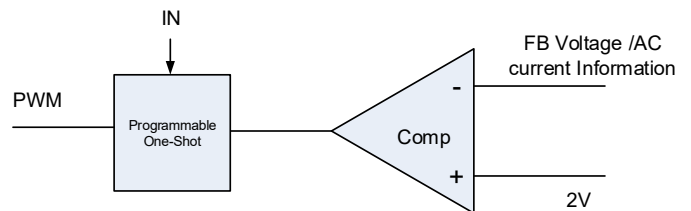

Figure 2. Simplified Control Schematic of AOZ2295AQI-03
The control algorithm of AOZ2295AQI-03 is constant-on-time PWM control with input feed-forward. The simplified control schematic is shown in Figure 2. The high-side switch on-time is determined solely by a one-shot whose pulse width is inversely proportional to input voltage (IN). The one-shot is triggered when the internal 2V is higher than the combined information of FB voltage and the AC current information of inductor, which is processed and obtained through the sensed low-side MOSFET current once it turns-on. The added AC current information can help the stability of constant-on time control even with pure ceramic output capacitors, which have very low ESR. The AC current information has no DC offset, which does not cause offset with output load change, which is fundamentally different from other V^2 constant-on time control schemes.